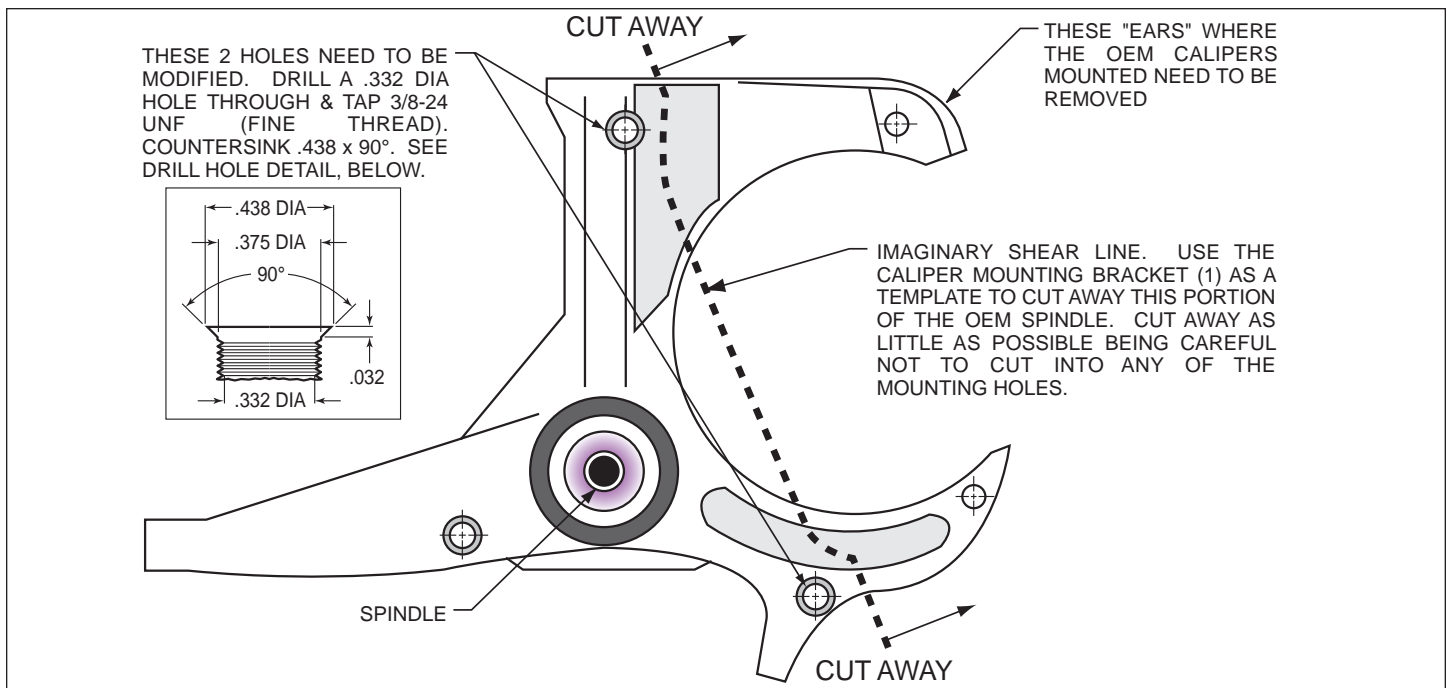

Figure 1. Steering Arm / Spindle Modifications
These modifications should be performed by a qualified machinist. Refer to Figure 1 on the following page as necessary (numbers in parenthesis refer to the parts list on page three). Only one view of the steering arm/spindle is shown, but the modifications need to be performed on both steering arm/spindles.
The two stock holes that will be used to mount the caliper mounting bracket (1) need to be modified (figure 1). Drill a .332 diameter hole through both holes, then tap 3/8-24 UNF (fine thread). Countersink the holes to .438 x 90°. The "ears" that protrude to form a "C" shape need to be removed to facilitate the installation of the Wilwood caliper (22). Using the caliper mounting bracket (16) as a template, mark two cut marks on the steering arm. Remove as little as necessary from the "C" shape, being careful not to cut away any of the mounting holes required to bolt on the caliper mounting bracket (1).
- Slide the rotor/hat assembly over the studs (3) in the hub (4) taking care to align the small countersunk holes in the hat (8) with the small threaded holes in the hub (4). Install three flat head socket head screws (11) through the small holes in the hat (8) and torque to 85 **in-lb**. Check to be sure the hat seats squarely against the hub face.
- NOTE:** Please reference the caution statement at the beginning of the assembly instructions. The caliper mount brackets (16) should be installed first with clean, dry threads on the mounting bolts (17). Place sleeve (19) into the holes on the radial mount caliper bracket (16). Install the radial mount caliper bracket (16) on the backside on the flat caliper bracket (1) by sliding bolt (17) through washer (18) and through the bracket holes. Place spacer (20) and shim washer (21) between the two brackets and screw bolt (17) into insert nut on the flat caliper bracket (1). Finger tighten bolt (17). Use one thin shim (21) between the two brackets (1 and 16) during initial trial fitting.
- NOTE:** This kit contains distinct right and left hand calipers that must be mounted in a specific direction, as described below. Lubricate the caliper mounting studs (23) with lightweight oil. Initially place two .030" thick shims (24) on each stud as shown in Figure 1. Mount the caliper (22) onto the bracket (16) using lock nuts (26) and washers (25), Figure 1. Ensure that the caliper is mounted so that the largest pistons are at the rotor exit end of the caliper, in relation to the direction of rotor rotation. Temporarily tighten the lock nuts.
- View the rotor (7) through the top opening of the caliper (22). The rotor (7) should be aligned in the center of the caliper (22). If not, adjust the radial mount caliper bracket (16) by using shims (21 and/or 28) placed between the two brackets (1 and 16). Add as many shim washers (21 and/or 28) as necessary to achieve the correct alignment. Always use the same amount of shims on both the top and bottom radial mount caliper mounting bolts (17). Finger tighten and recheck alignment, adjust as necessary. Apply red *Loctite*® 271 to bolt threads (17) and torque to 47 ft-lb.